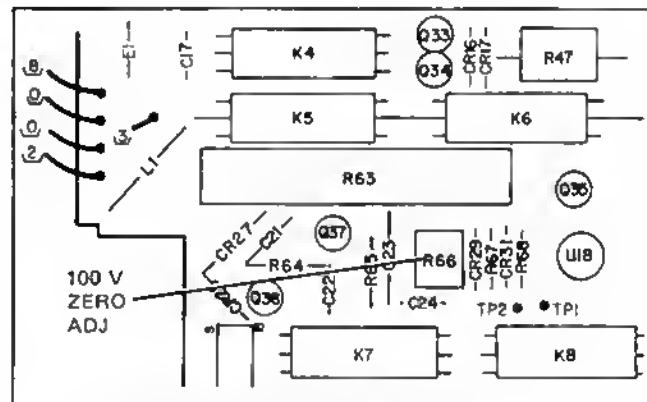

Figure 5-1. 100 Volt Zero Adjustment.
c. Set the test DVM to measure dc volts (autorange). Connect the DVM's low input to the A10 board ground test point and the high input to A10TO1 (Figure 5-1).
d. Adjust A10R66 (Figure 5-1) for a DVM reading of $0\text{ V} \pm 50$ microvolt. Disconnect the test DVM.